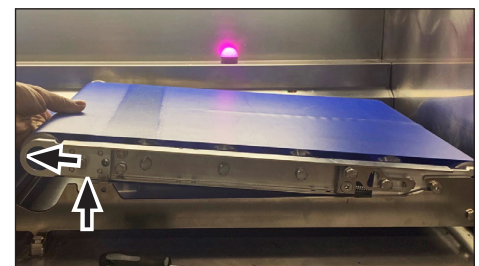

Figure 9. Lift and remove Conveyor
5. Gently lift up on the front of the Conveyor Belt and slide forward out of the cradle (Figure 9).